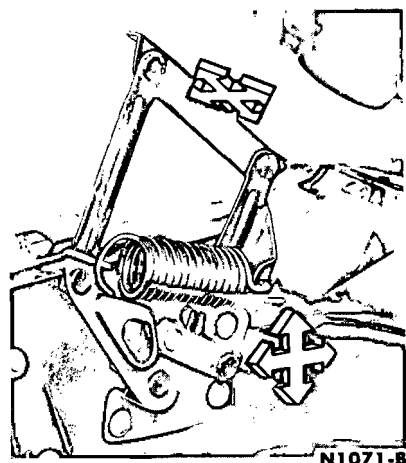

FIG. 1—Hood Hinge Installation—Typical
The hood is provided with fore and aft, vertical, and side-to-side adjustments (Fig. 1). These directions refer to the position of the hood when it is fully lowered. The elongated bolt slots in the hinge at the hood provide the side-to-side adjustment. The enlarged holes in the hinge at the fender apron provide both vertical and fore and aft adjustments.
2. Remove the hinge-to-hood retaining bolts, the retaining bolts at the fender apron and cowl (Fig. 1), and remove the hinge.